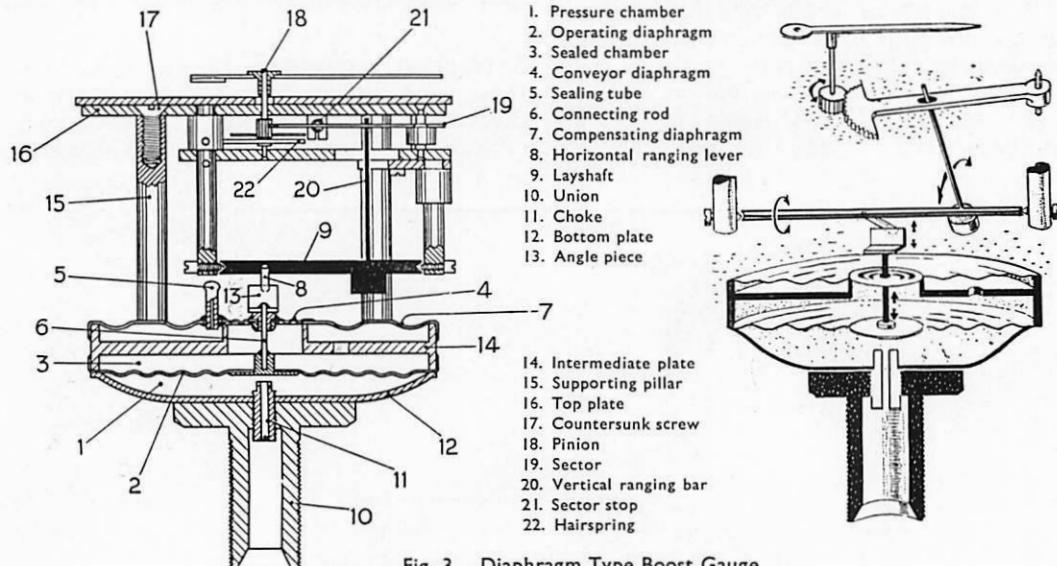

Fig. 3. Diaphragm Type Boost Gauge.
13. **Diaphragm Type Boost Gauge.** In this type (Fig. 3) the pressure in the induction system